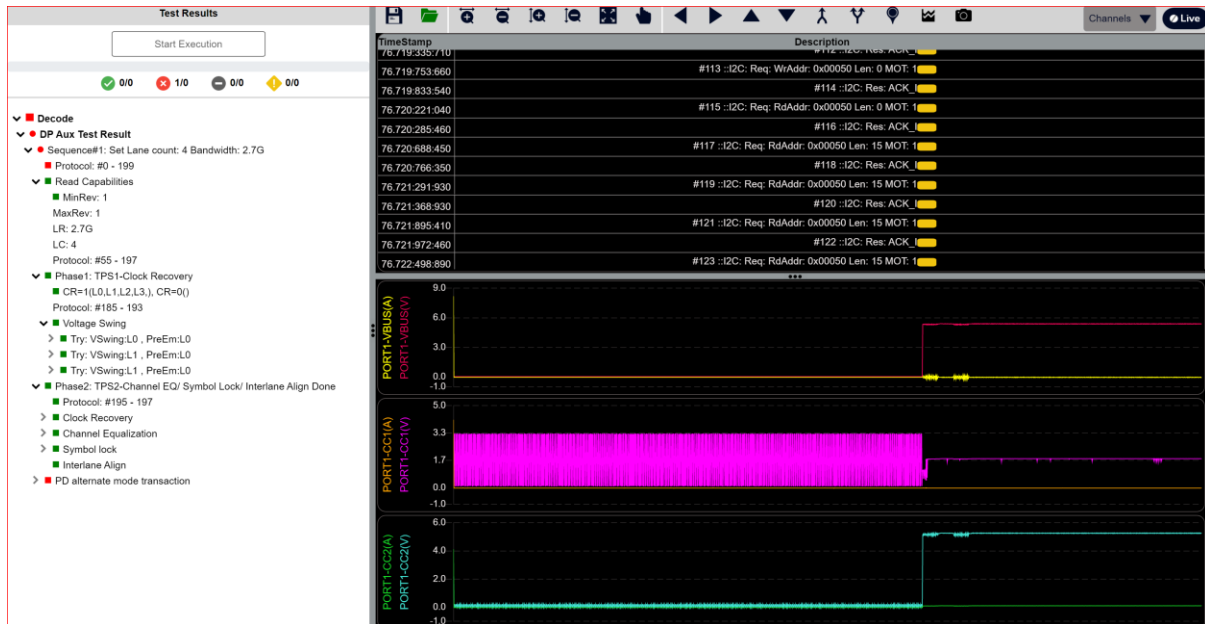

FIGURE 4.2: VIEWING MORE DETAILS ON DP-AUX TEST RESULTS
- More details on the DP-AUX test protocol and Pass/Fail descriptions can be seen by expanding the test results drop down as shown in Figure 4.2 example.